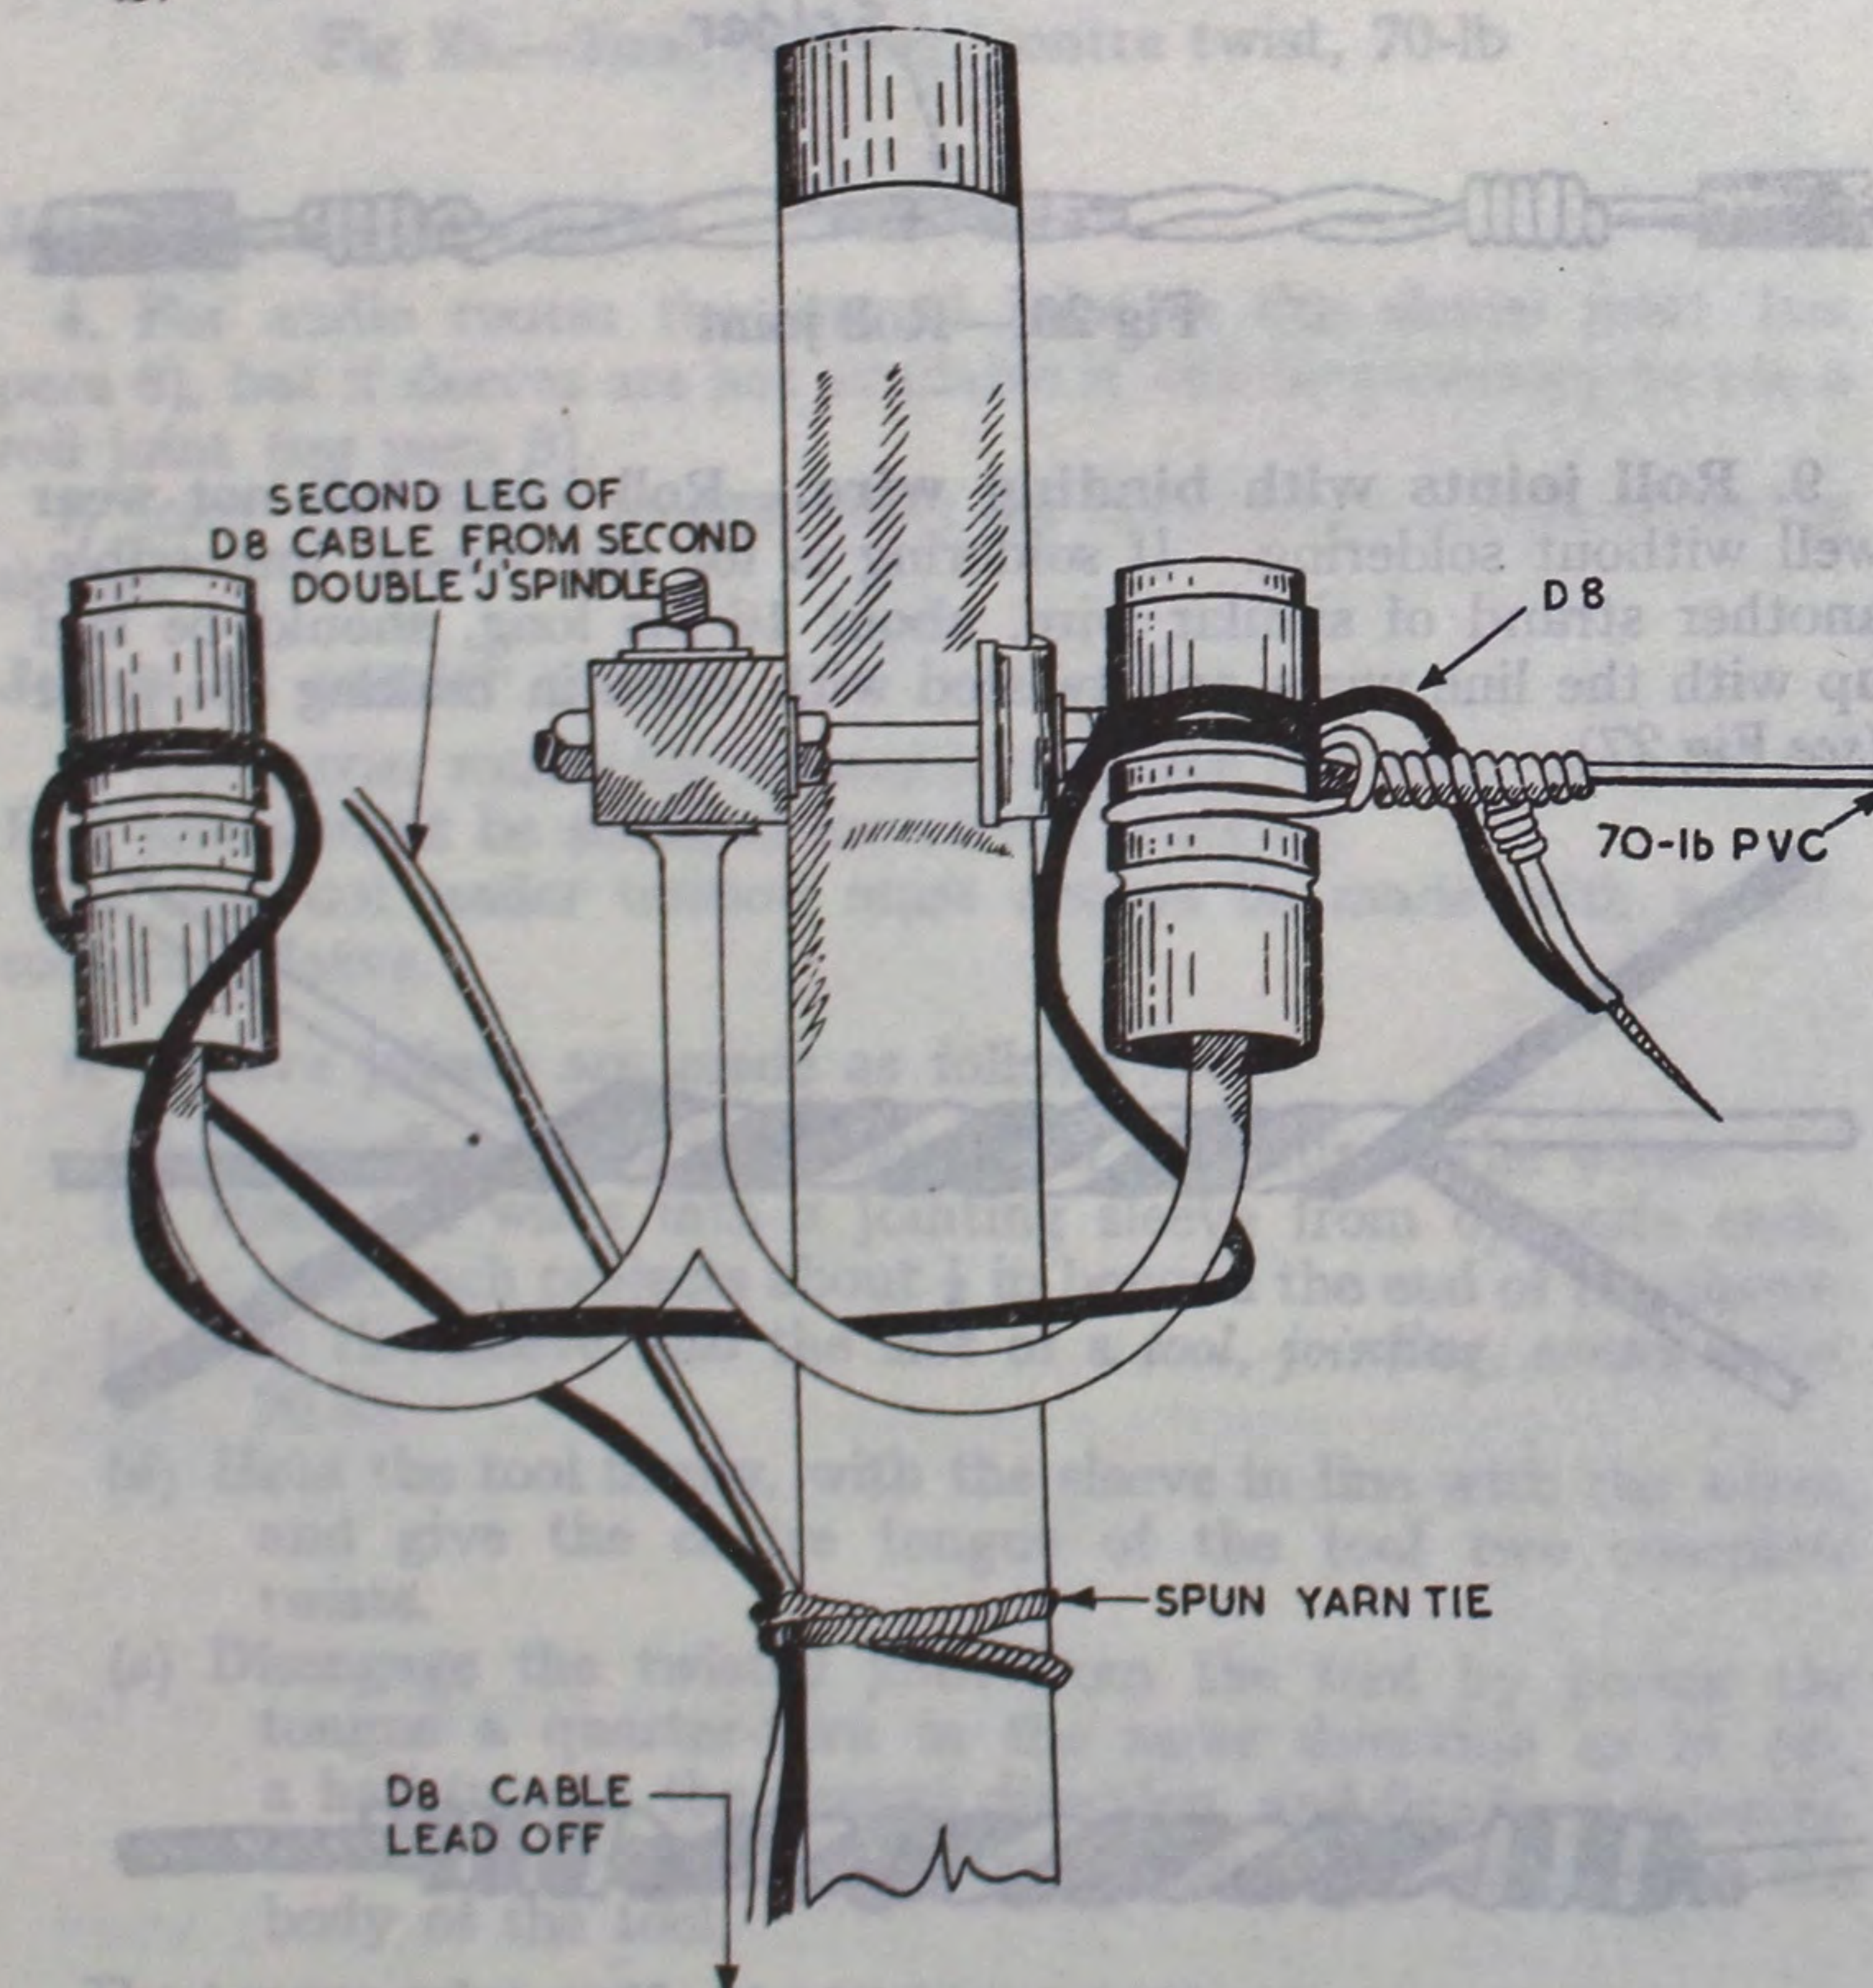

Fig 28.—Jointing 70-lb cadmium copper PVC to "D" class cables.
11. **Jointing to "D" class cable** (see Fig 28).—To joint 70-lb cadmium copper PVC to "D" class cable, proceed as follows:—